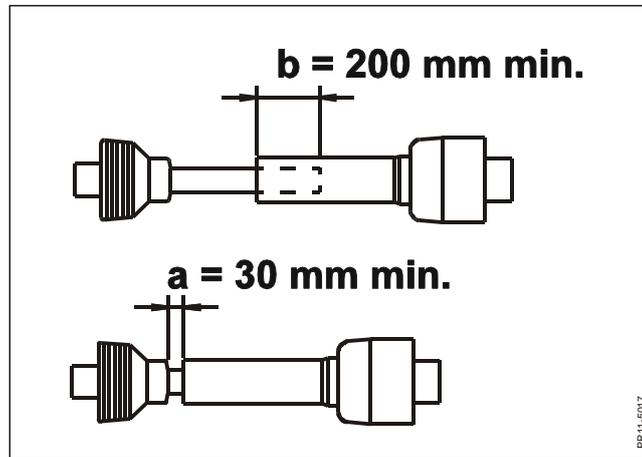
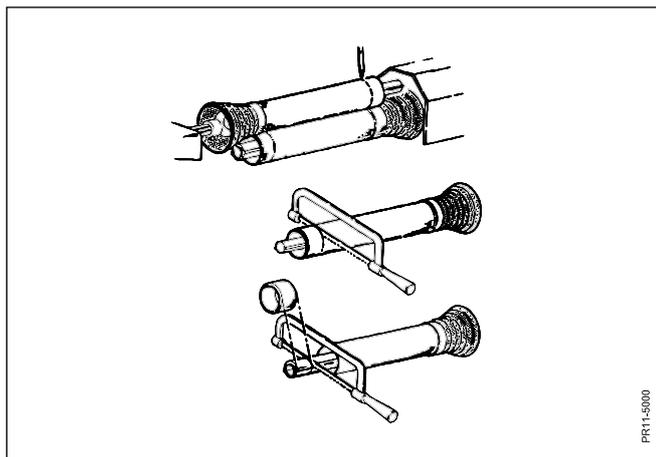

Fig. 2-10
Fig. 2-12
- Fig. 2-10** Adjust the length of the PTO shaft so that it:
Fig. 2-12 Fasten the halves of the shaft to PTO and PIC (fig. 2.10), respectively, when these are right opposite each other with the machine in working position. (The longest distance on this machine). Hold the shaft ends parallel to each other and mark the wanted shortening, minimum 200 mm overlapping. Shorten all 4 tubes equally. The ends of the profile tubes must be rounded off and burrs must be removed carefully. It is very important that the tubes are smooth and clean before greasing. Grease the tubes carefully before reassembling.
WARNING: Never turn so sharply that there are less than the prescribed 30 mm distance in order not to bottom the shaft. See measurement a in fig. 2-10.